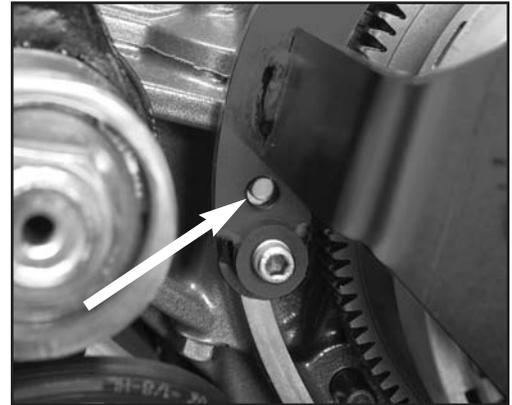

Fig.1
1. Install Clutch Hub Holder No. **1667**. **Note:** Clutch hub holder can be installed in one position only. There is a dowel pin **Fig. 1** used to align the crankcase cover, use this to align the clutch hub holder. You may have to rotate the engine slightly to get clutch hub holder to align properly.